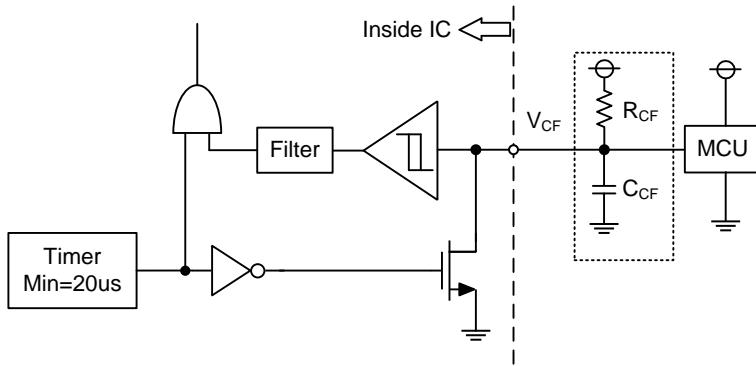

Figure 5. V_{CF} Output Circuit
- There are two COM pins in the IPM but it is recommended to only use the (15) COM pin to minimize SC detection noise.
- (9) Input drives are active-high. There is a minimum $3.5\text{k}\Omega$ pull-down resistor in the input circuit of IC. To prevent malfunction, the layout to each input should be as short as possible. When using RC coupling circuit, make sure the input signal levels meet the required turn-on and turn-off threshold voltages.
- (10) V_{CF} output is open drain type. It should be pulled up to MCU or control power supply (max= $5\pm0.5\text{V}$), limiting the current (I_{CF}) to no more than 1mA . I_{CF} is estimated roughly by the formula of control power supply voltage divided by the pull-up resistor R3. For example, if control supply is 5V , a $10\text{k}\Omega$ (over $5\text{k}\Omega$) pull-up resistor R3 is recommended.
- (11) If only a pull-up resistor R3 of $10\text{k}\Omega$ connected to V_{CF} pin, the fault output pulse width is fixed at minimum 20us . If a capacitor C6 is connected with a pull-up resistor R3, the fault output pulse width can be controlled according to the resistor value and capacitor value. For the design guide, please refer to the Figure 5.
- (12) Direct drive of the IPM from the MCU is possible without having to use opto-coupler or isolation transformer.
- (13) The IPM may malfunction and erroneous operations may occur if high frequency noise is superimposed to the supply line. To avoid such problems, line ripple voltage is recommended to have $dV/dt \leq \pm 1\text{V}/\mu\text{s}$, and $V_{ripple} \leq 2\text{V}_{\text{p-p}}$.
- (14) It is not recommended to use the IPM to drive the same load in parallel with another IPM or inverter types.